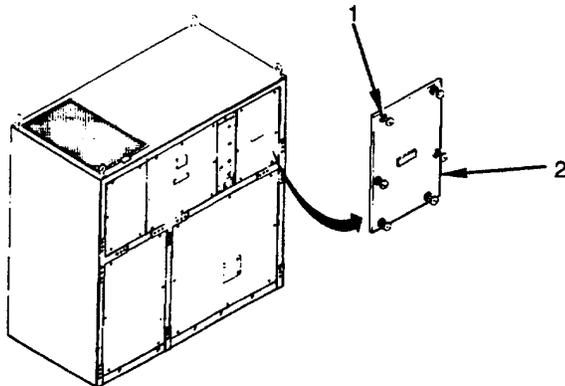

Figure 4-22. Left Front Condenser Panel Installation
- e. Install Left Front Condenser Panel. Install panel (1) and tighten six captive fasteners (2) (see Figure 4-22).